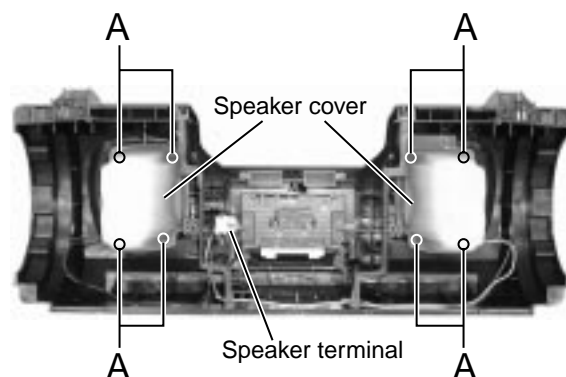

Fig.36
■ Removing the front speakers (See Fig.36 and 37)